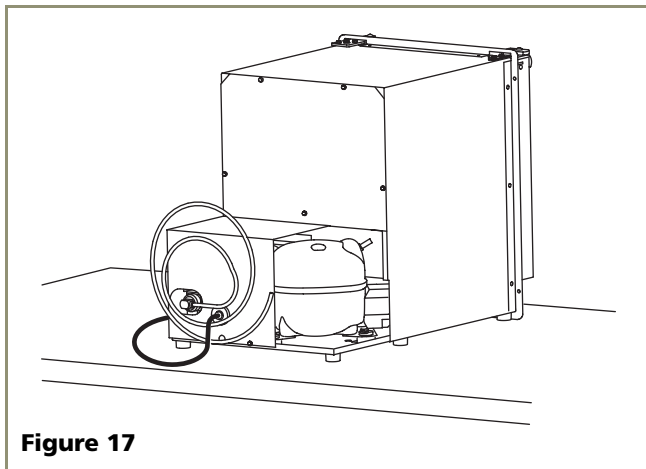

Figure 17
- Connect sufficient tubing to the unit so that tubing may be looped, allowing the unit to be removed for cleaning and servicing (see **Figure 17**). However, make certain that the tubing is not pinched or damaged during installation.
Route the water supply line through the unit so it does not come into contact with any internal components other than the solenoid valve. See **Figure 17**. Normal operation creates some vibration. A water supply line contacting an internal component or cabinet wall can cause excessive noise during operation or damage to the line.
4. For recessed installations, allow extra water supply line length to provide slack for easy removal from the recessed area (see **Figure 17**). This will also safeguard against kinking the line.